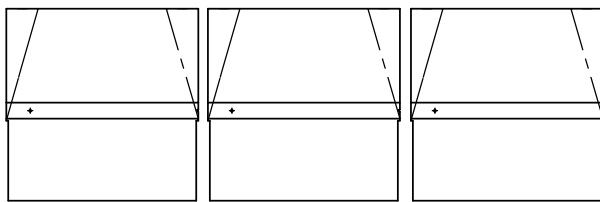

FIG. 4.1
- CUT SHINGLES INTO THREE PIECES. (FIG. 4.1)